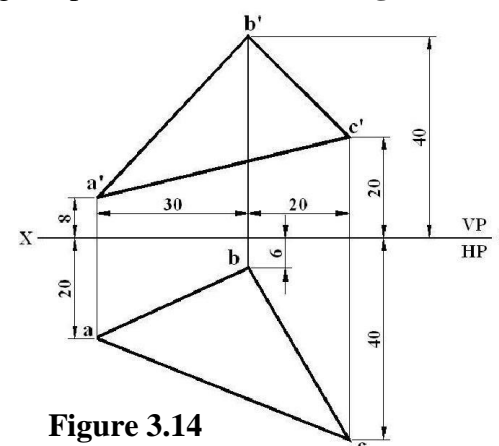

Figure 3.14
14. Determine the true shape of the triangular plane **ABC** shown in **Figure 3.14** and its inclination with the HP. Also draw its true shape.